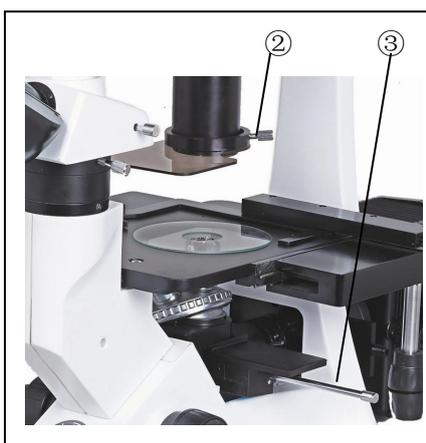

Fig 16
2.2.11 Installing protection barrier, glass plate, lever (Fig 16)